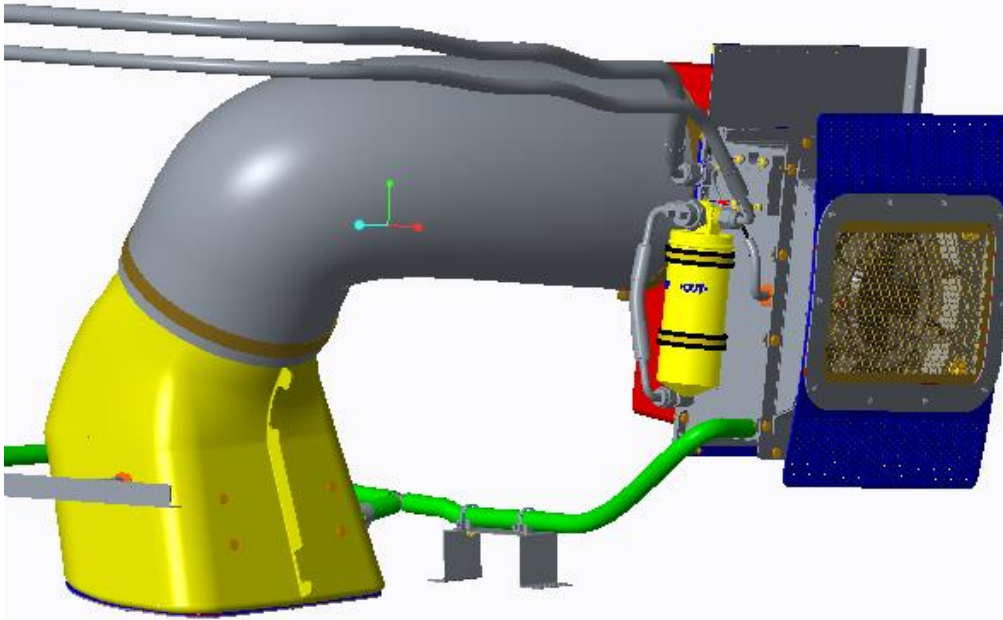

Figure 22 – Condenser Inlet Installation
- 2) Test fit the AC-02138 Cover over the opening and cut a drain hole per the notes and views. See Figure 22.